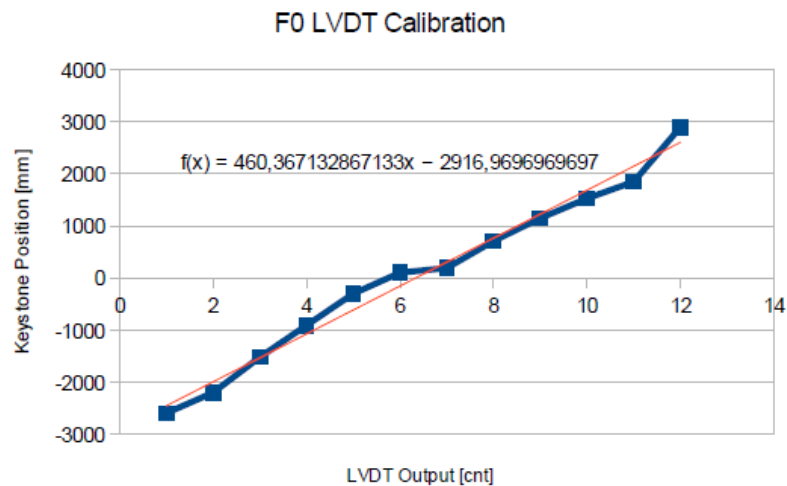

Figure 4: Calibration of the F0 GAS filter
- Finally, we need to move the core gradually back to the center position and then to the another end of the LVDT range. And we need to register the data at different points in order to check the linearity of the device. As an example, we can see in the figure 4 the calibration done for the Top filter GAS of the BS suspension.